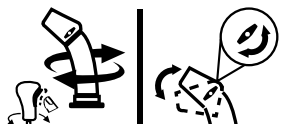

Figure 58
- To change direction in which snow is thrown, squeeze button on control and rotate to the right or to the left (Figure 58).